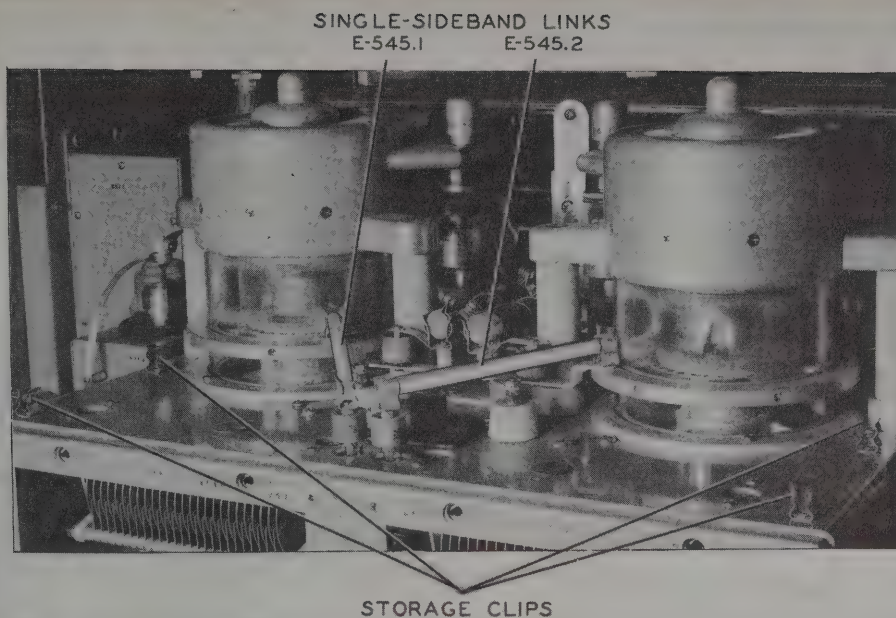

Figure 54. Radio Transmitter T-454/FRT-26, Showing SSB Coupling Links in Place.
*c.* Place the two IPA grid input SSB links E-545.1 and E-545.2 in their clips, as shown in figure 54.